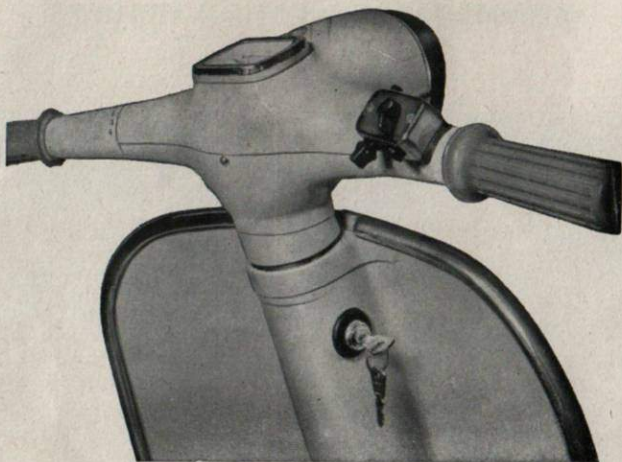

Fig. 3
Fig. 3 illustrates the position of the steering lock (1).